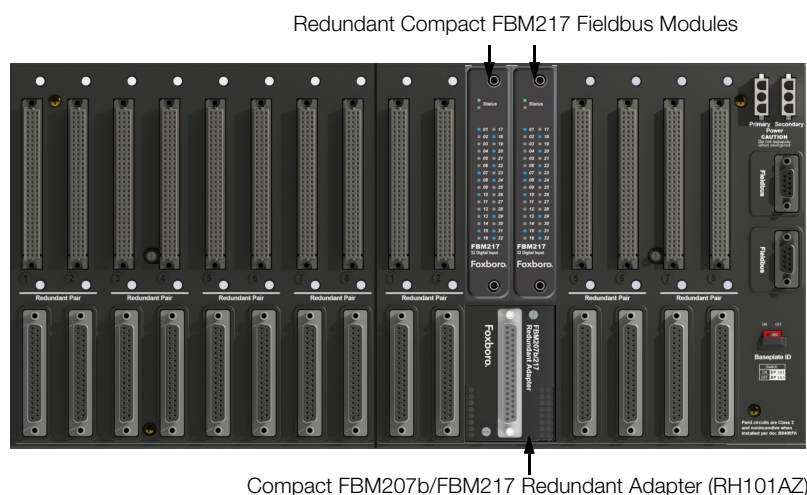

Figure 1. Compact FBM217 Redundant Module Configuration
Redundant modules must be located in adjacent positions on the baseplate, with the first module located in an odd-numbered position (for example, the positions labelled "3" and "4"). To achieve redundancy, a redundant adapter module is placed on the two adjacent baseplate termination cable connectors to provide termination for a single cable (see Figure 1). A single termination cable connects from the redundant adapter to the associated termination assembly (TA).